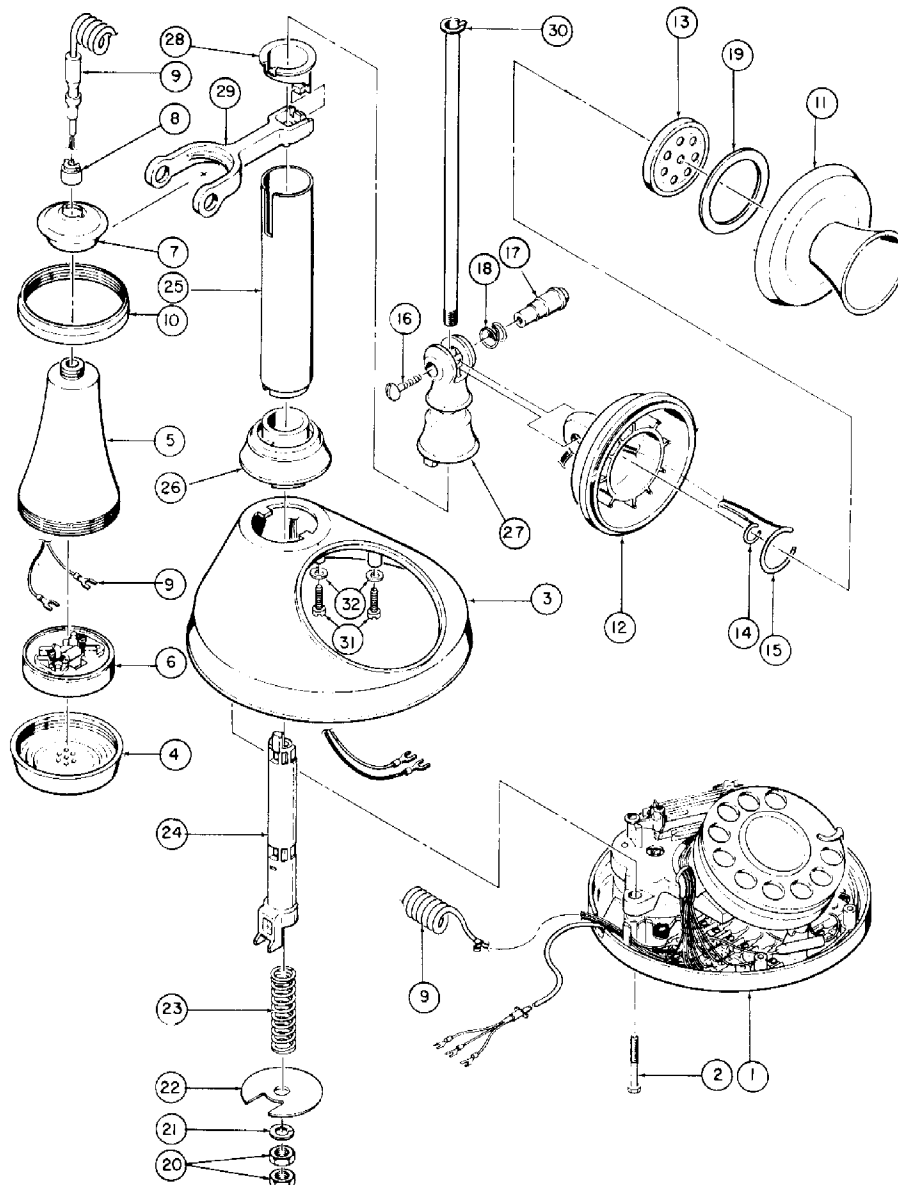

Figure 7. Candlestick Telephone.
6.08 To remove the earpiece cord (Figures 7 and 9) and line cord (5), unhook the strain relief clamps from the post on the base and disconnect the leads from the terminals in the base.
7.01 To assemble those components that mount on the base, refer to Figure 8 and Table 8. To assemble the housing, transmitter, and earpiece, refer to Figure 7 and Table 7.
7.07 To assemble the housing and column, proceed as follows (Figure 7 and Table 7):
- (a) Insert the actuator guide tube (30) into the upper column fitting (27).
- (b) Fit the hook (29) and hook support (28) together and insert into the top of the column (25). Slide this assembly over the actuator guide tube.
- (c) Place the lower column fitting (26) on the column (25).
- (d) Position the actuator sleeve (24) inside the column (25).
- (e) Insert the actuator spring (23) into the actuator sleeve (24).
- (f) Position the housing (3) on the lower column fitting (26).
- (g) Position the housing washer (22) inside the housing, and secure the whole column assembly with the lockwasher (21) and two nuts (20).
7.14 Install the earpiece cord (Figure 7, 9) as follows:
7.16 Carefully position the housing (Figure 7, 3) over the base assembly (1) and secure with four screws (2).